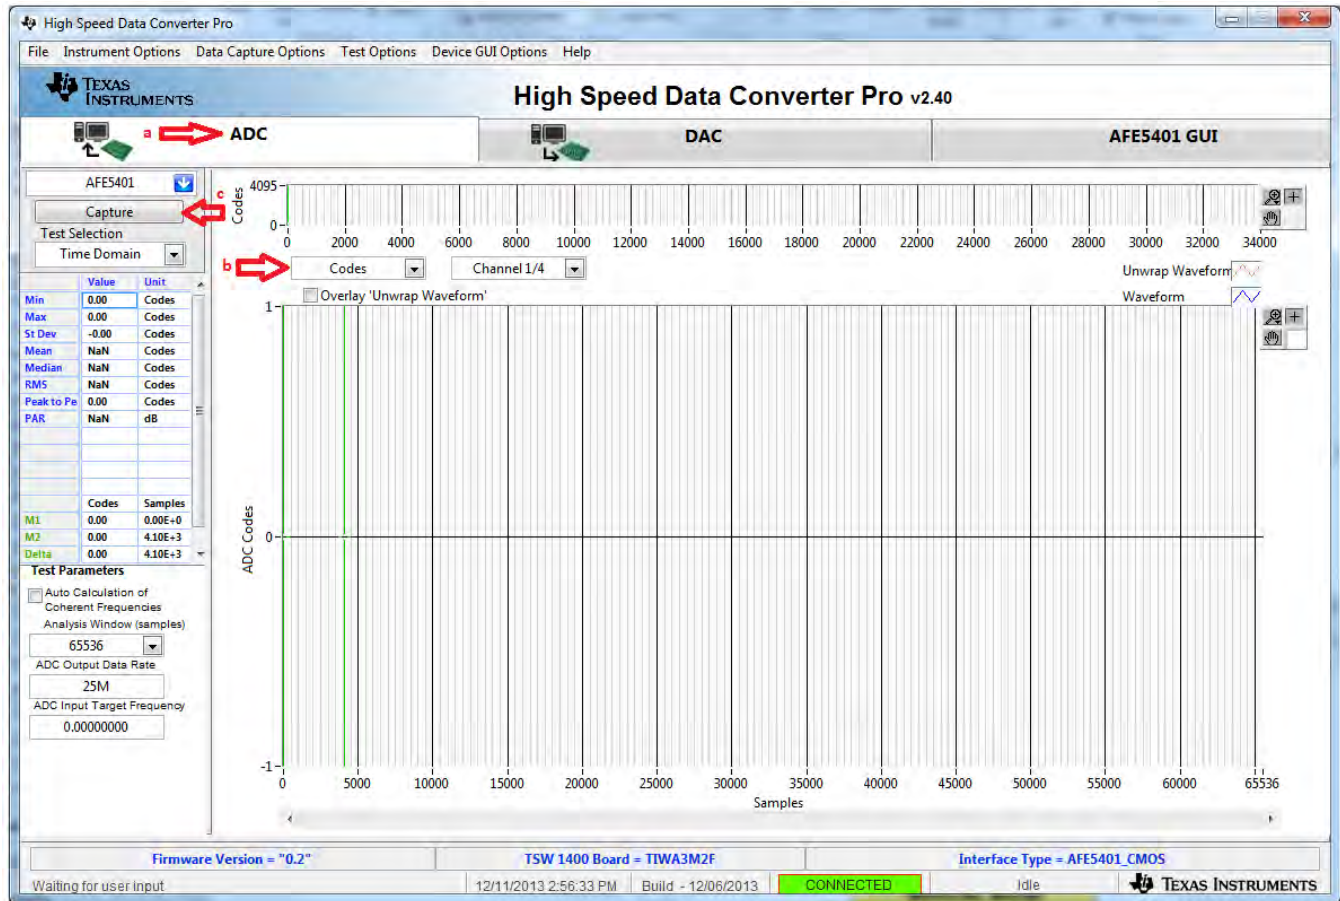

Figure 74. GUI Setup For Blind RAMP Test (c)
2. Capture and view the RAMP by performing the following steps; also illustrated in Figure 74: